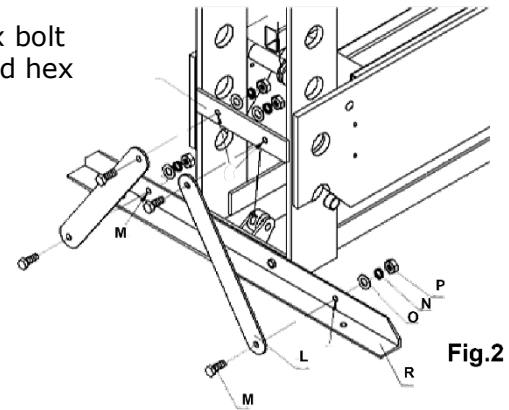

Fig.2
11.1.2 Fix the 4 supports (L) to the body frame (A) by using hex bolt M12X30 (M), washer M12 (O), spring washer M12 (N) and hex nut M12 (P). (refer to Fig.2)